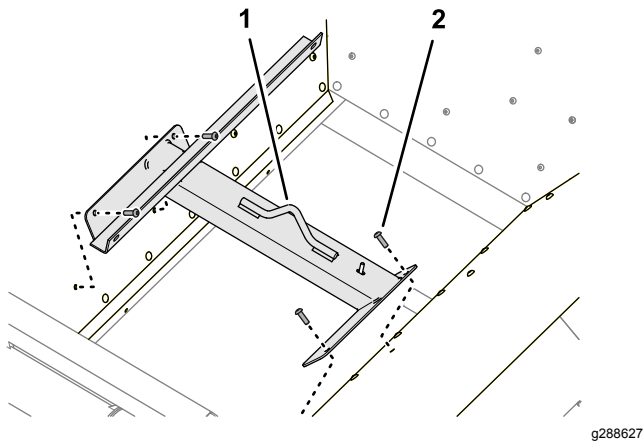

Figure 29
1. Remove the 4 button-head screws that secure the lifting bracket to the wall of the hopper (Figure 29).
2. Assemble the button-head screws into the wall of the hopper and tighten the screws (Figure 29).